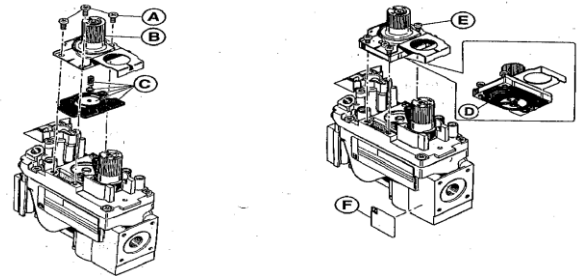

Figure 4 – Valve Conversion Kit
5. Install the enclosed identification label (F) to the valve body where it can be easily seen (Figure 4). Place the White NG sticker over the Red LP sticker on the valve door.